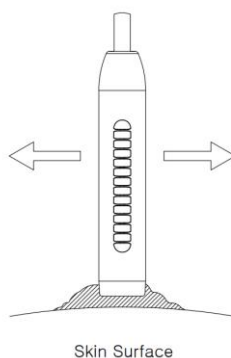

Figure 2.
- If use 2 MHz probe, place the probe on the measurement area at a 90-degree angle (see figure 2.) and move slowly to locate the point where fetal heart sounds are at the maximum. Or place the transducer directly against the abdomen, just above the point where the pelvic bones meet.